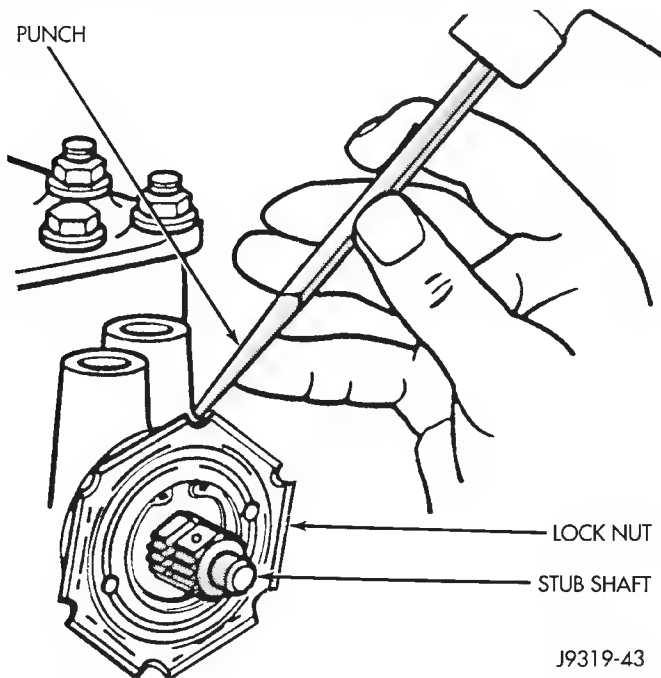

Fig. 8 Loosening the Adjuster Plug Locknut
- (1) Remove adjuster plug locknut (Fig. 8).